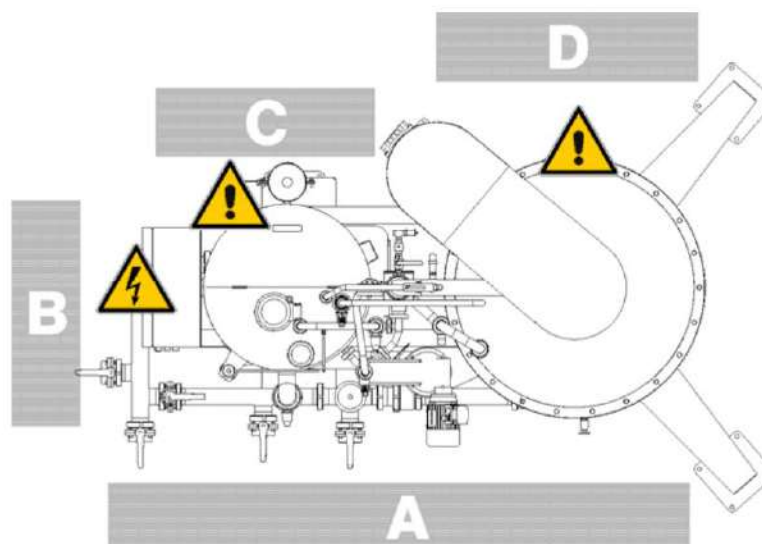

Figure 3
3.3. Operator Workstations Figure 3 shows workstations for operations typically performed with NF filters.